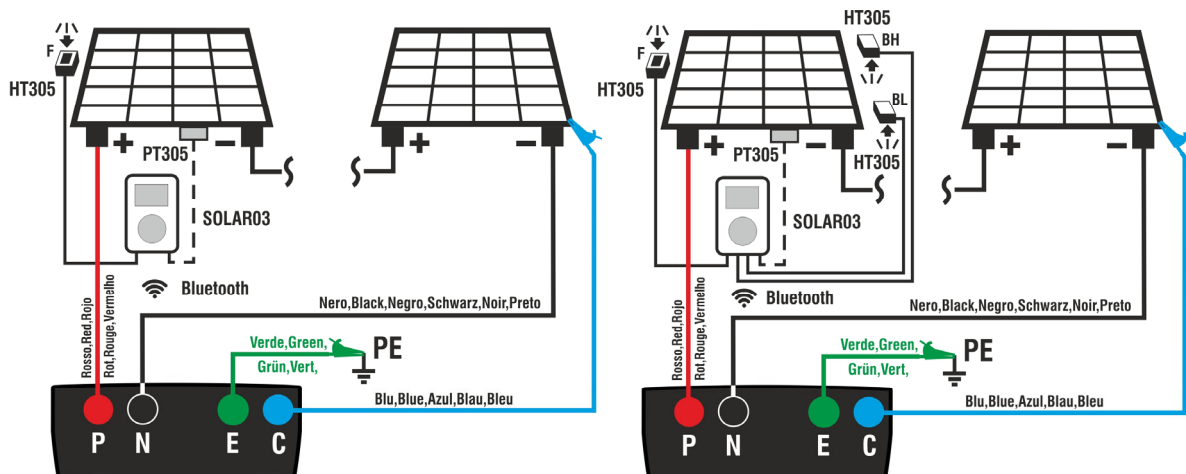

Fig. 11: Connection with remote unit SOLAR03 on Monofacial and Bifacial modules
- Connect the instrument to the PV module/string being tested and to the main earth node of the system, and to the metal masses connected to earth as shown in Fig. 11.
9. Bring the remote unit near the modules and connect the irradiance/temperature probes as shown in Fig. 11. **Since recording has already been activated on remote unit SOLAR03, it is not strictly necessary to maintain the Bluetooth connection anymore.** Maintaining the connection will only allow to immediately obtain the outcome of the test without waiting for the measuring campaign to be completed.